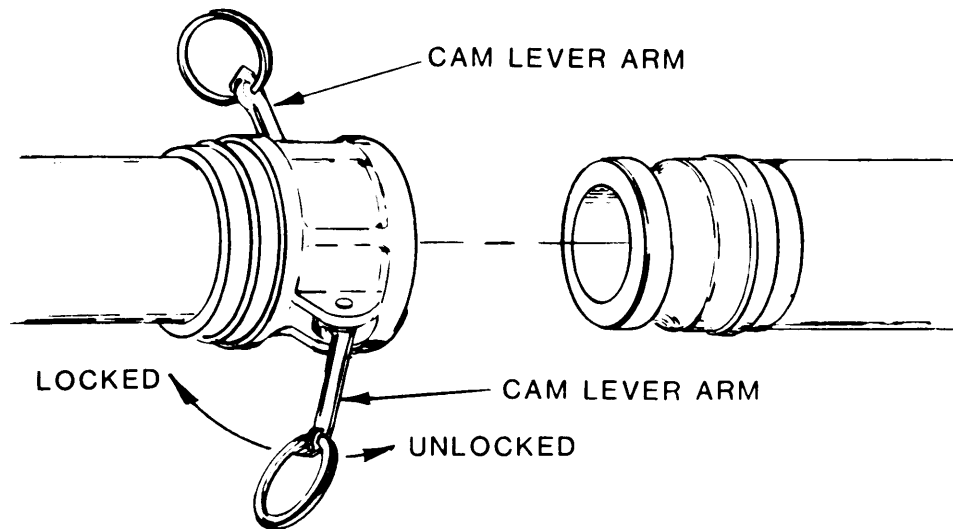

Figure 2-1. Cam Operated Quick-Disconnect Coupling
- a. Quick-Disconnect Couplings (See Figure 2-1). The following tank accessories come with quick-disconnect couplings.
- (1) 3 inch filler/discharge hose
- (2) 90° filler/discharge elbow
- (3) 3 inch gate valve
- (4) Vent pipe
- (5) Dust plugs and caps
- (6) 4 inch female to 3 inch male reducer